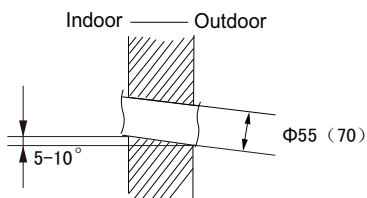

Fig.2
(2) Open a piping hole with the diameter of $\Phi 55(70)$ on the selected outlet pipe position. In order to drain smoothly, slant the piping hole on the wall slightly downward to the outdoor side with the gradient of $5-10^\circ$.(As show in Fig.2)